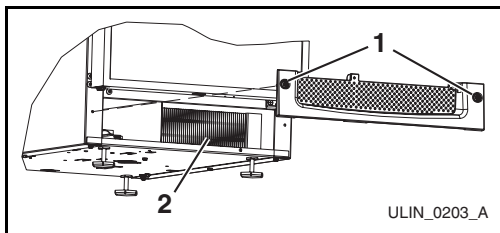

Figure 6
2. Loosen two screws (**Figure 6, 1**) completely.
4. Clean the condenser coil (**Figure 6, 2**) using a soft brush with a "combing" action or vacuum cleaner. Do not touch the condenser coil.